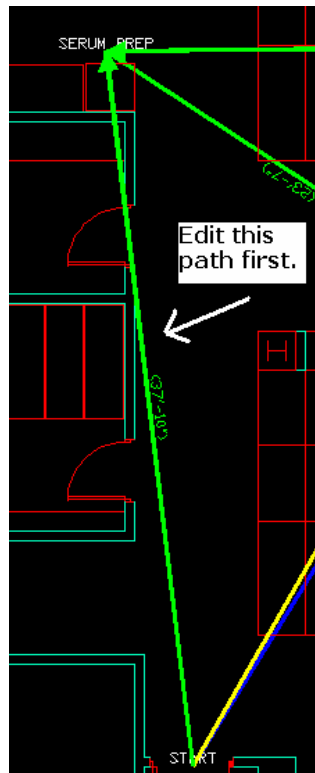

Figure 7
STEP 8: The WPP window will now disappear and you will be in the AutoCAD application window. AutoCAD is prompting you to select a path to replace with a new manually drawn one. Select the green path that begins at START and ends in SERUM_PREP. (See Figure 7)